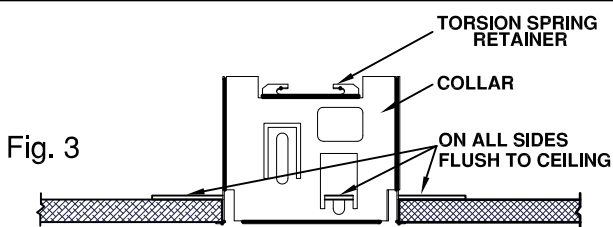

Fig. 3
3. Install collar into opening. Bend tabs on each side completely outward and down. If necessary, use pliers to ensure tabs are flush to the ceiling. Warning: Tabs must be bent flush or fixture may not be retained in the ceiling properly. **See Fig. 3**